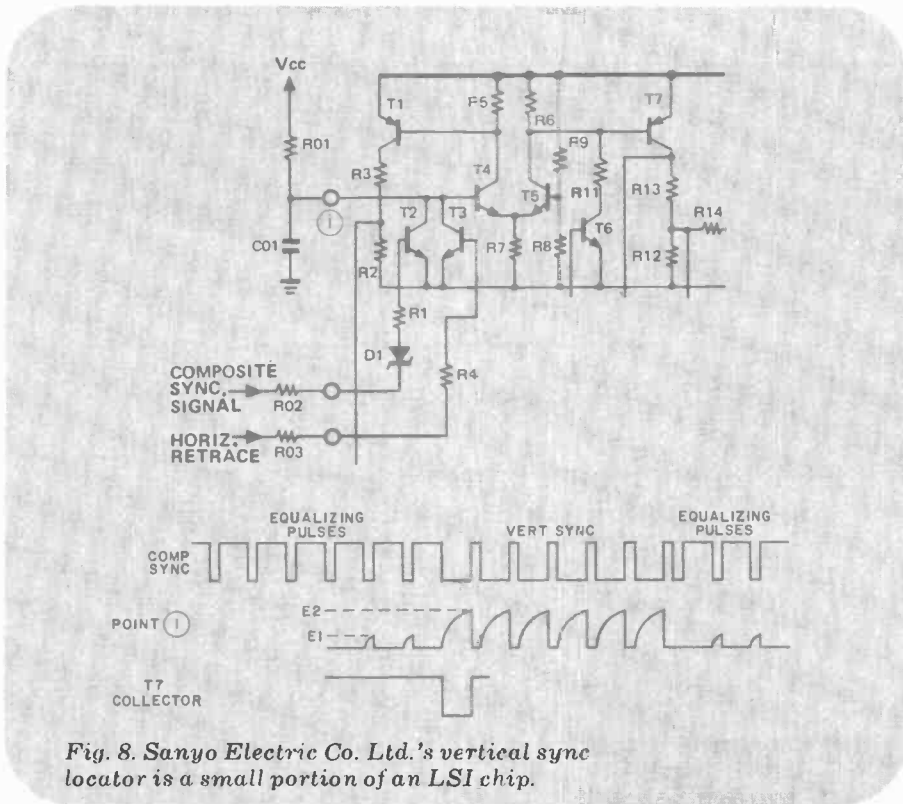

Fig. 8. Sanyo Electric Co. Ltd.'s vertical sync locator is a small portion of an LSI chip.
**Manufacturer Circuits.** Shown in basic form in Fig. 8 is part of an LSI chip used in Sanyo's vertical-sync pulse locator circuit. The composite sync from a conventional sync separator causes Q2 to turn off during the period of these pulses. The horizontal-retrace pulse cuts off Q3 during this interval. When Q2 and Q3 are cut off, the Q4 base-circuit capacitor charges up during the equalizing and vertical-sync interval. When Q2 and Q3 are conducting, the capacitor discharges, keeping the base of Q4 at ground potential. Since the intervals between equalizing and vertical pulses are different, the pulses at the base of Q4 vary, as illustrated by the accompanying waveforms.